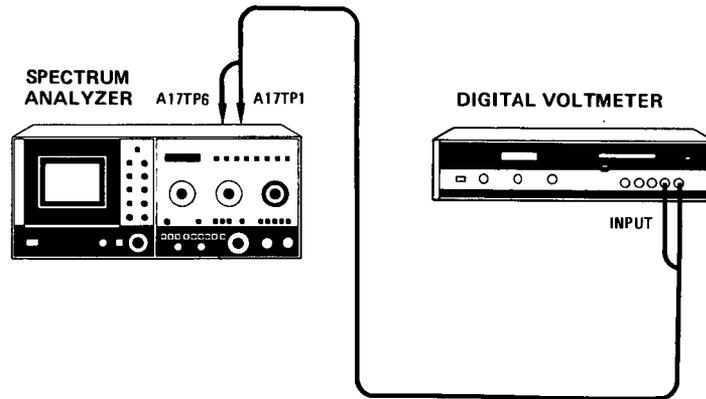

Figure 5-29. +10V Reference and Digital Readout Adjustments Test Setup
- b. Reconnect power cord, set LINE switch ON, connect equipment as shown in Figure 5-29, and set 8565A controls as follows: